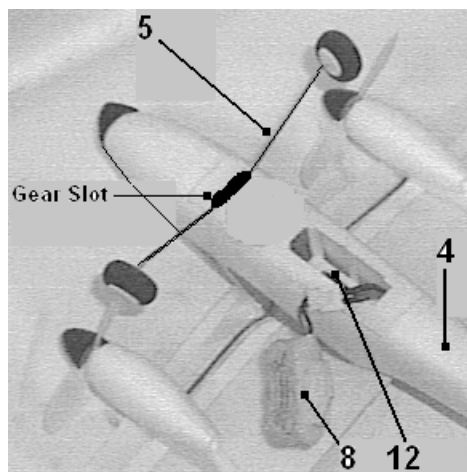

Figure 2
2. Hold the Fuselage (4) with the bottom side up in one hand and carefully push the Main Landing Gear (5) into the slot provided. Tuck Battery (8) into Battery Compartment (12) being careful to push Female Battery Connector (3B) towards the top of the Fuselage (4). **See Figure 2.**